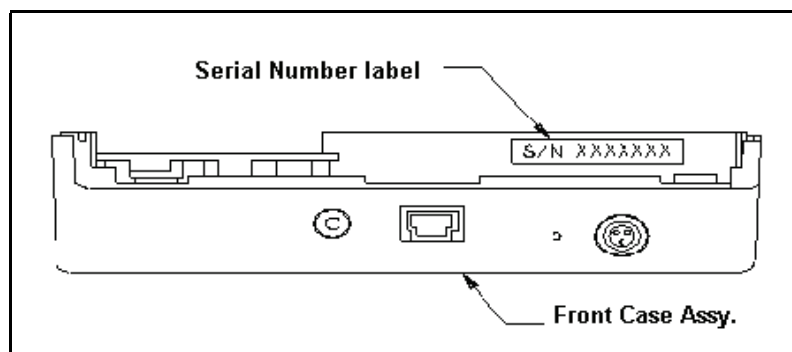

Figure 6-12. Serial Number Label Location
1. Refer to Figure 6-12. Prior to installing the ESD Flex Circuit (p/n B069110002), ensure the Serial Number Label is attached to the Front Case as shown. If replacing the Front Case, remove the label from the old Front Case and apply it to the new one as shown.